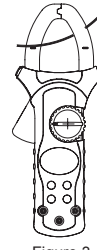

Figure 3
A. Measuring AC Current (See Figure 3)